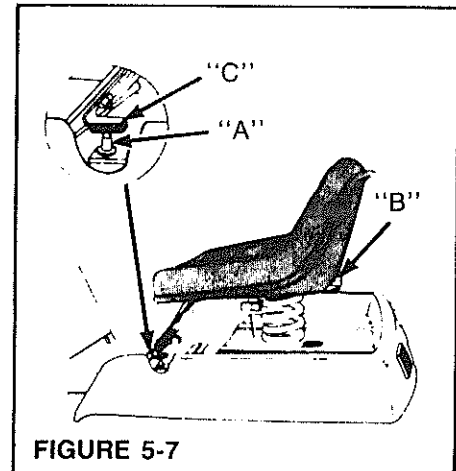

FIGURE 5-7
2. The second switch is below the seat, (A), Figure 5-7. This switch should be activated when back edge of seat support (B) is depressed 5/8" (16 mm). If not, loosen bracket (C) and move to correct location. The switch can also be activated by raising the seat and lifting the interlock button UP.